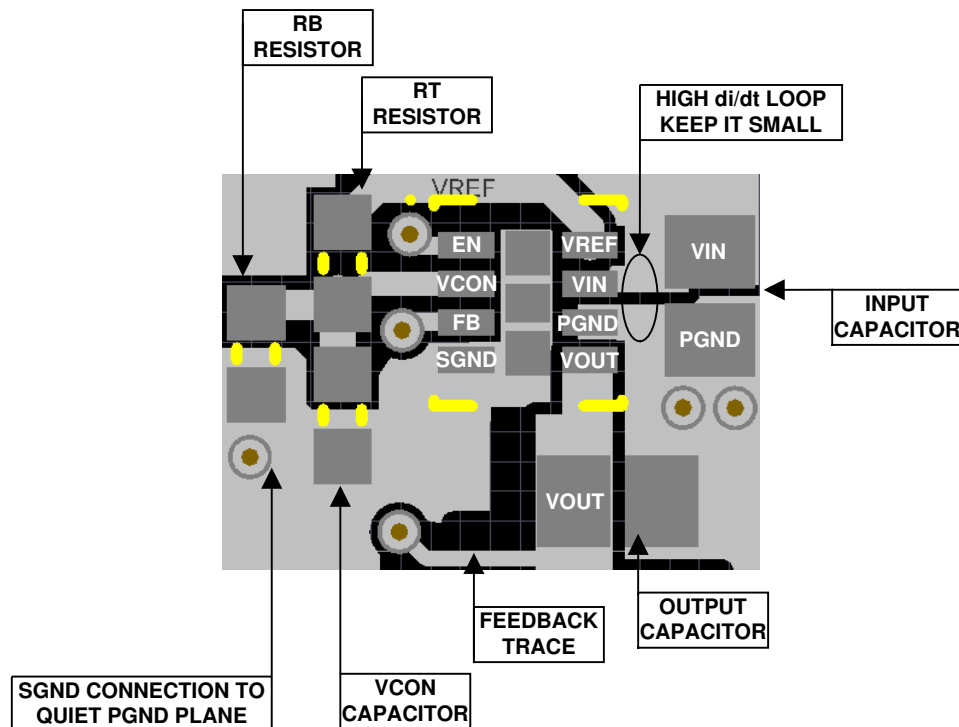

图 8-26. Example Top Layer Board Layout
The LMZ10501 integrates the inductor and simplifies the DC/DC converter board layout. Refer to the example layout in 图 8-26. There are a few basic requirements to achieve a good LMZ10501 layout.
2. Place the  $V_{\text{CON}}$  filter capacitor  $C_{\text{VC}}$  and the  $R_{\text{B}}$   $R_{\text{T}}$  resistive divider as close as possible to the  $V_{\text{CON}}$  and SGND pins. The  $C_{\text{VC}}$  capacitor (not  $R_{\text{B}}$ ) must be the component closer to the  $V_{\text{CON}}$  pin, as shown in 图 8-26. This allows for better bypass of the control voltage set at  $V_{\text{CON}}$ .